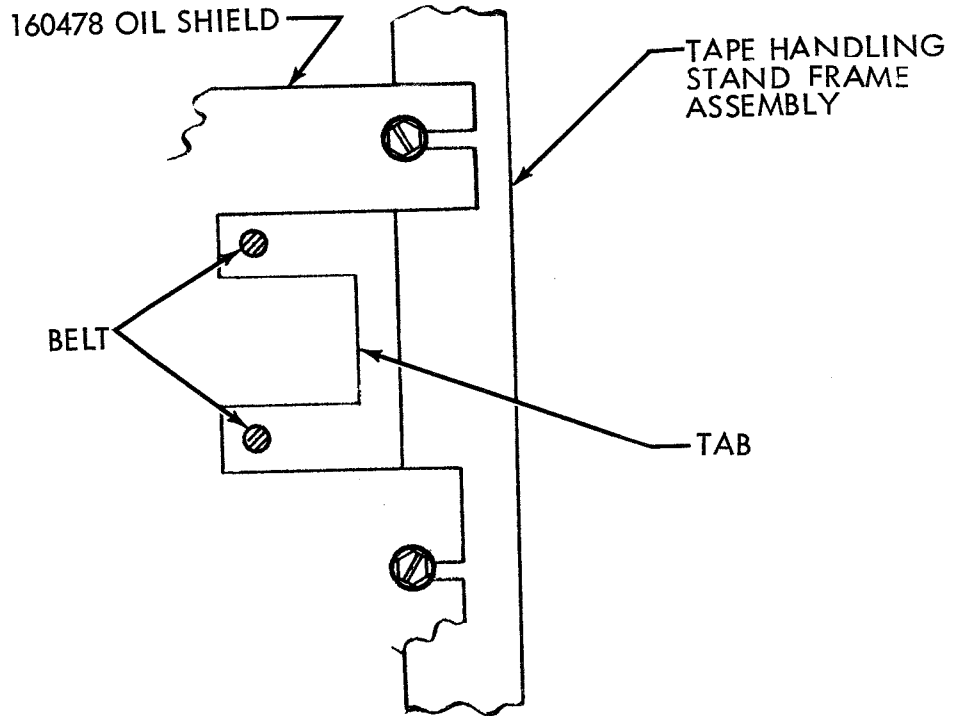

FIGURE 1
a. Assemble kits to Tape Handling Stands equipped with old style 160478 Oil Shields as follows: See Figure 1, Old Style.
(1) Remove and discard the 151630 Screw, 2191 Lock Washer and 7002 Flat Washer that secures the tab on the oil shield that protrudes through the center of the belt.
(2) Loosen two screw assemblies, one on each side of the tab, and position the 179381AA to CZ Gear Guard on top of the existing oil shield and under the flat washers of the two screw assemblies.
(3) Run the two screw assemblies previously loosened in Paragraph 2.a.(2) down, but do not tighten until the adjustment requirement is met. See Paragraph 3.c.
b. Assemble kits to Tape Handling Stands equipped with new style 160478 Oil Shields as follows: See Figure 1, New Style.
(1) Loosen two screw assemblies, one on each side of the tab, and position the 179381AA to CZ Gear Guard on top of the existing oil shield and under the flat washers of the two screw assemblies.
(2) Run the two screw assemblies previously loosened in Paragraph 2.b.(1) down, but do not tighten until the adjustment requirement is met. See Paragraph 3.c.
c. To adjust the kit to meet the requirement in Paragraph 3.b., position the gear guard to meet the requirement and tighten the two screw assemblies, one on each side of the tab. See Figure 1.